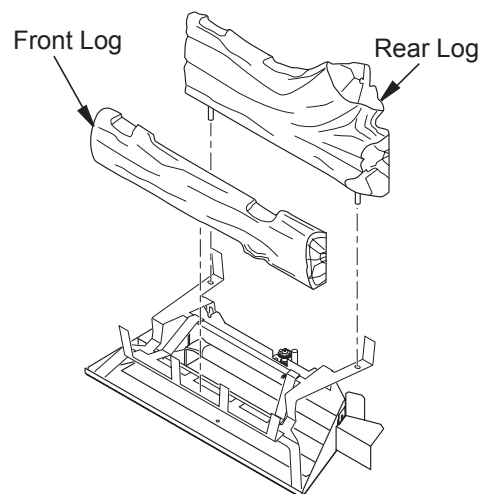

Figure 22 - Installing Front and Rear Logs
1. Place front log onto front of grate sliding log all the way forward against grate fingers (see Figure 22).
2. Insert pegs on bottom of rear log into holes in rear of grate (see Figure 22).